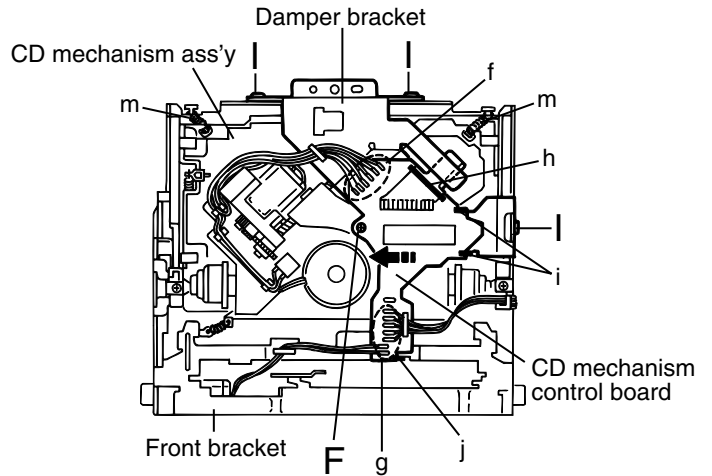

Fig.10
■ Removing the CD mechanism control board(See Fig.10 and 11)
(See Fig.10, 15 to 18)